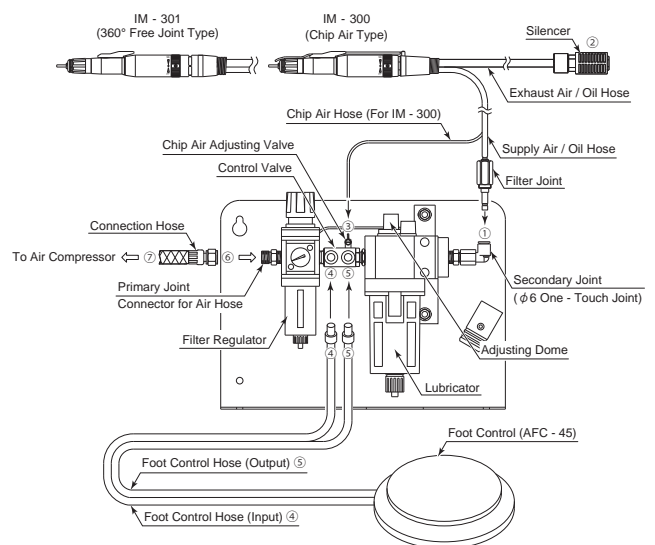

Fig. 4 Connection of Air Line Kit "AL - H1207F (Sold Separately) "
- (1) Connecting the Filter Joint of the Air Motor to the Secondary Joint (φ 6 One - Touch Joint) on the Air Line Kit. (Fig. 4 ①)
- (2) Place "Exhaust Air Silencer / Oil Hose" into an empty container (Fig. 4 ②). (Exhaust outlet air and oil from the Silencer.)
\* If using the ROTUS Air Motor "IM - 300", insert the Chip Air Hose to the Chip Air Adjusting Valve on the Control Valve (Fig. 4 ③).
- (1) Insert the Foot Control Hose (Input) ④ to the One - Touch Joint ④ of the Control Valve (Fig. 4).
- (2) Insert the Foot Control Hose (Output) ⑤ to the One - Touch Joint ⑤ of the Control Valve (Fig. 4).
- Connect the Connection Hose (Air Line Kit's Standard Accessory) to the Primary Joint of the Air Line Kit. (Fig. 4 ⑥)
- Connect the other side of the Connection Hose (Air Line Kit's Standard Accessory) to the compressor. (Fig. 4 ⑦)